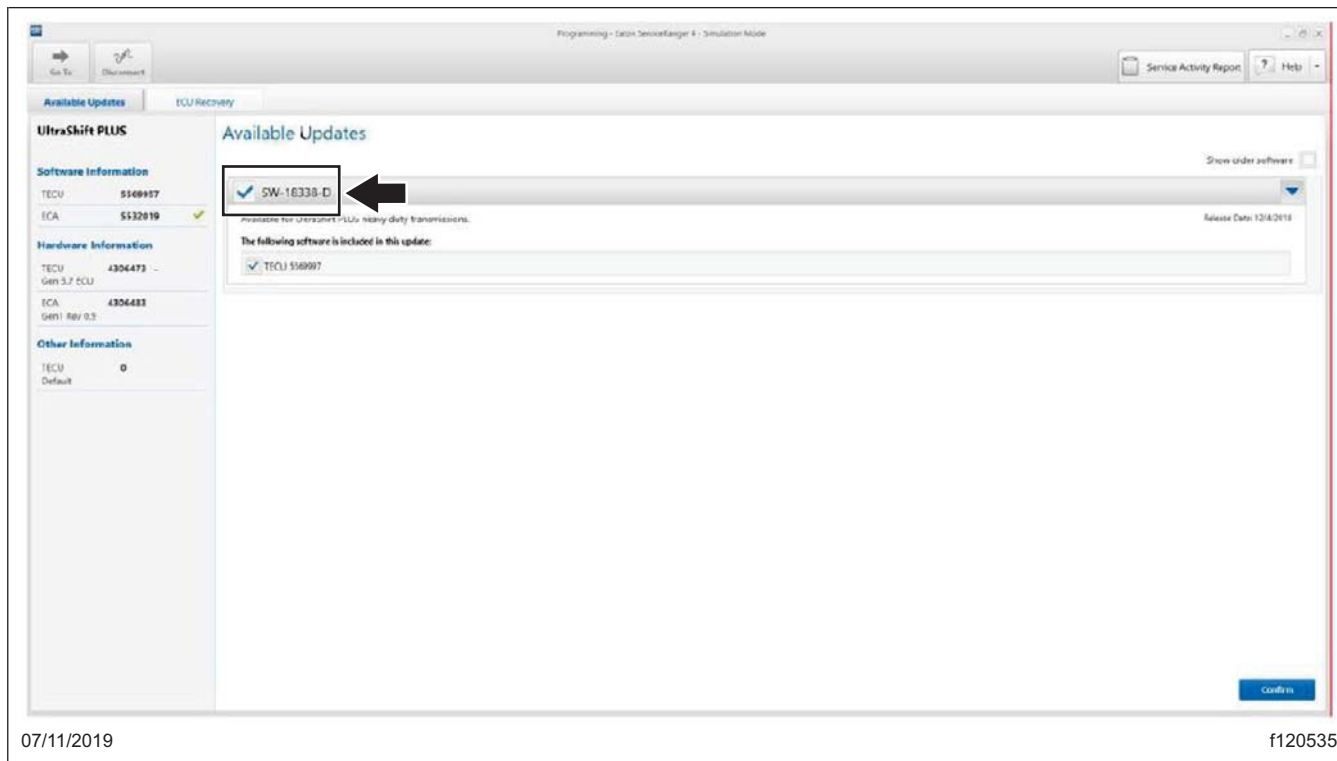

Fig. 7, Verifying the Software Number
- 4.5 Select Available Updates – SW-18338-D (5569997), or greater. See Fig. 7. If the software is 5569997 or greater, no update is required. Go to step 4.13.